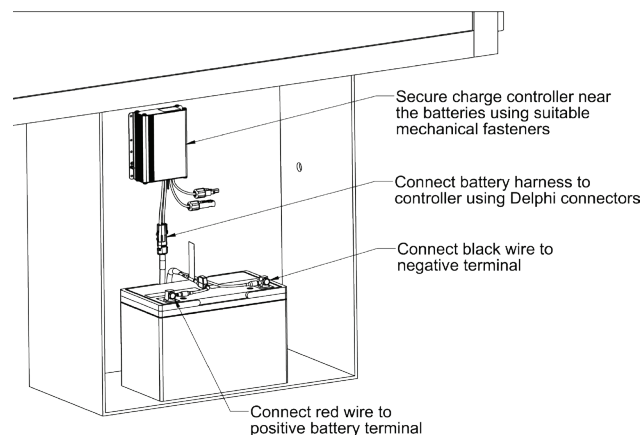

FIGURE 5
- Use mechanical fasteners to secure the charge controller near the batteries. (Figure 5)
- Attach the SC solar extension harness to the solar controller using the SC connectors. (Figure 5)